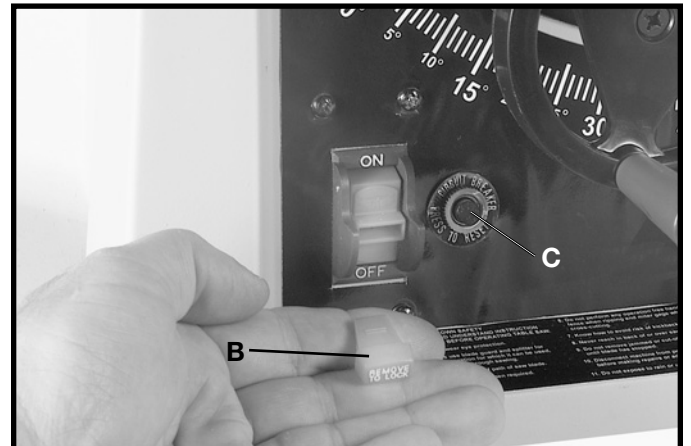

Fig. 28
IMPORTANT: When the tool is not in use, the switch should be locked in the "OFF" position to prevent unauthorized use. To lock the tool, grasp the switch toggle (B) and pull it out of the switch (Fig. 28). With the switch toggle (B) removed, the switch will not operate. However, should the switch toggle be removed while the saw is running, the machine can be turned "OFF," but cannot be restarted without re-inserting the switch toggle (B).
Your saw is equipped with a reset button (C) Fig. 28. If the motor stops or fails to start due to over-loading (cutting stock too fast, using a dull blade, using the saw beyond its capacity, etc.) or low voltage, turn the switch to the "OFF" position. Let the motor cool three to five minutes. Push the reset button (C) to reset the overload device. The motor can then be started again in the usual manner.